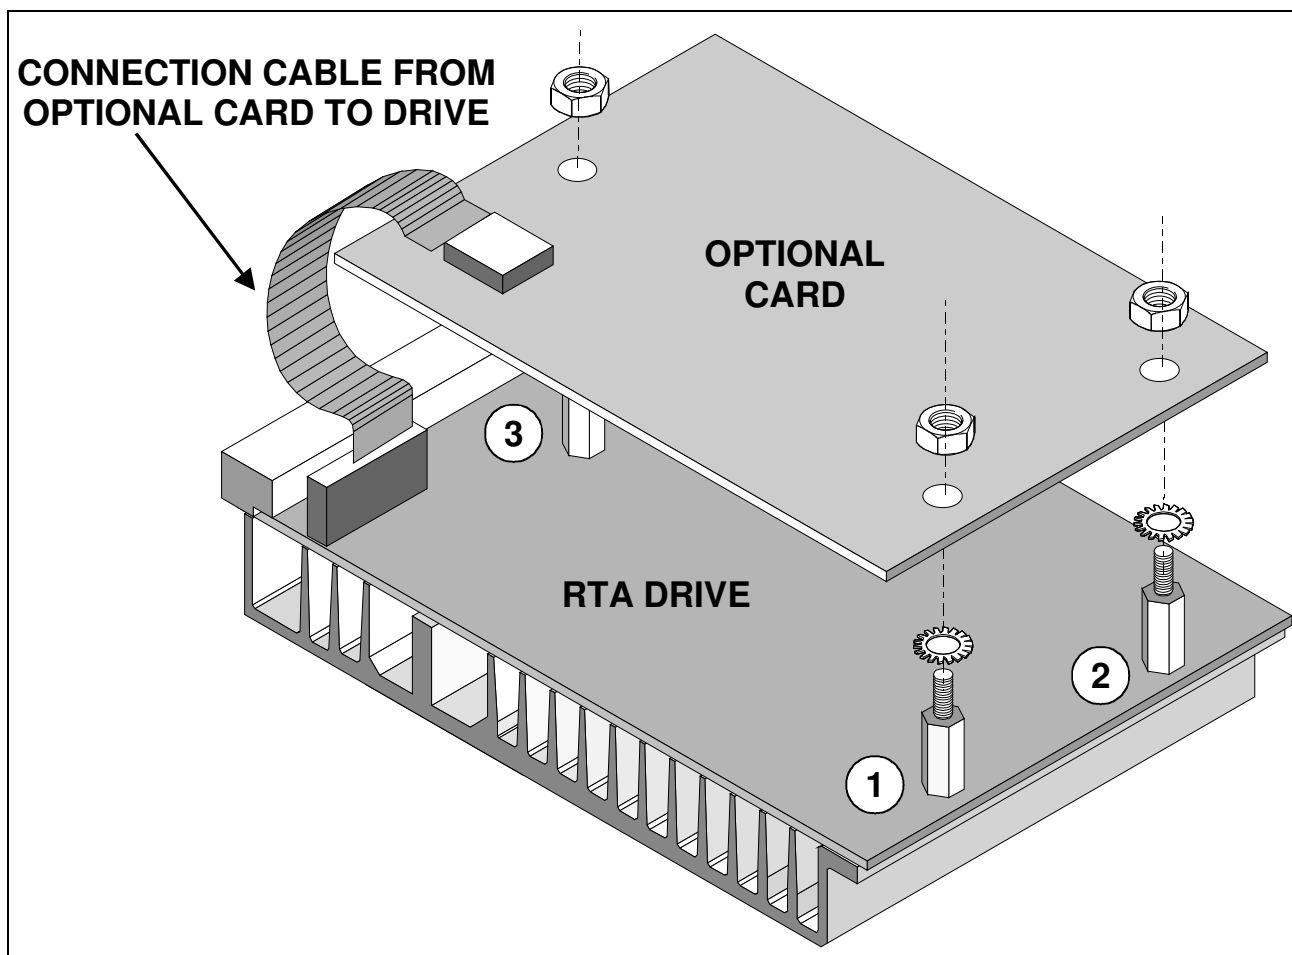

Fig. 9
- 9.2 - Mechanical mounting: use the three columns present on the upper side of the printed circuit board. As far as regards the way to execute the mounting, follow what indicated in fig. 9.